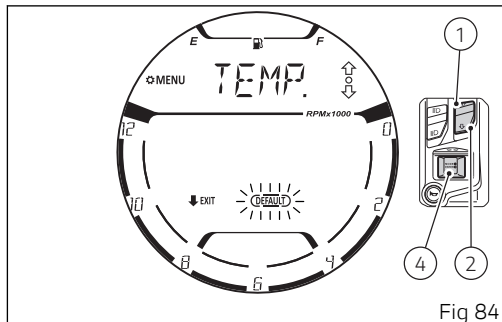

Fig 84
Each time button (1) or button (2) is pressed the instrument panel displays, flashing and in sequence, the "TEMP." setting (Fig 82) and the frame of the "DEFAULT" indication (Fig 84). Afterwards, the "SPEED" indication (Fig 79) will start flashing again.
It is possible to restore the units of measurement of all indications displayed on the instrument panel. Use buttons (1) and (2) to select "DEFAULT" with flashing frame (Fig 84) and press button (4).